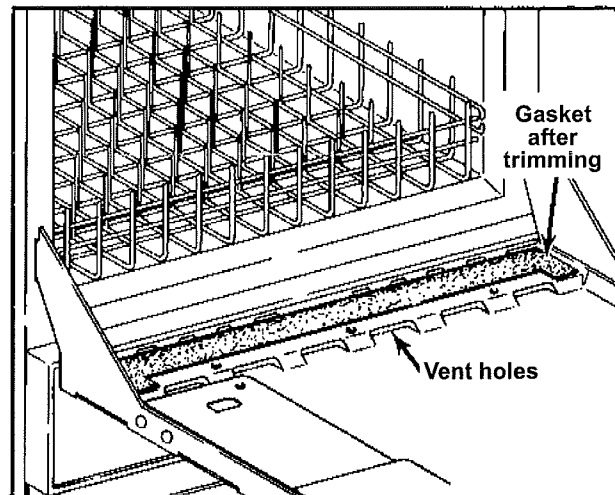

Figure 3
6. (FOR PLASTIC DOOR MODELS ONLY). Use a razor blade to trim any part of the gasket that overlaps the vent holes in the door. The gasket should appear as in Figure 3.